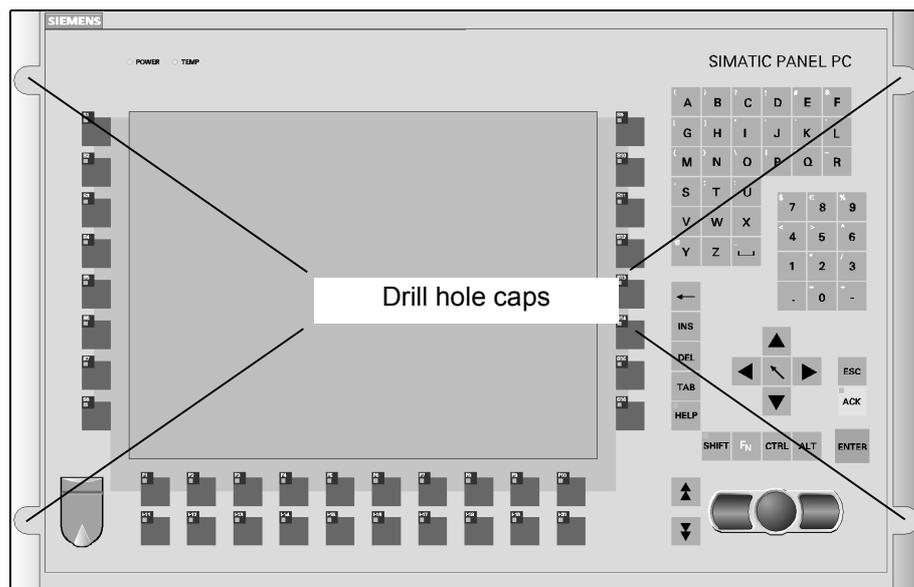

Figure 1–5 Drill Holes with Caps
1. Drill appropriate holes around the prepared installation cut-out in accordance with the specifications to L4 and L5 in Figure 1–4.